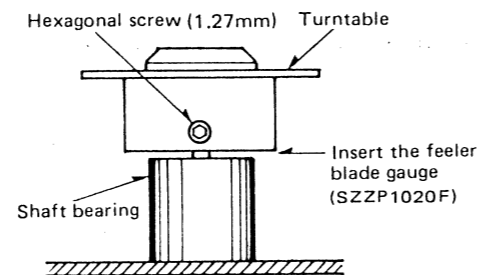

Fig: 4-9. Front view of traverse deck
2. Insert the thin end of FEELER BLADE GAUGE (SZZP1020F) between the turntable and the shaft bearing as shown in figure 4-9.